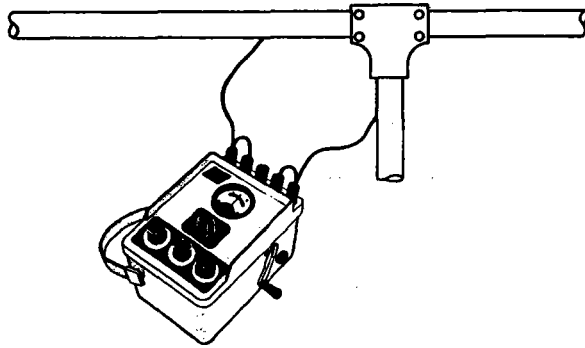

Figure 3-9. Connections for Testing Earth Continuity.
b. TESTING THE CONTINUITY OF CONDUIT OR OTHER EARTH CONDUCTORS. To measure metallic resistances of low inductance or capacitance conduit or other earth conductors, connect the earth tester as illustrated in Figure 3-9. Due to the low resistance to be measured, contact resistance between leads and conduit becomes a major consideration and must be as low as possible.